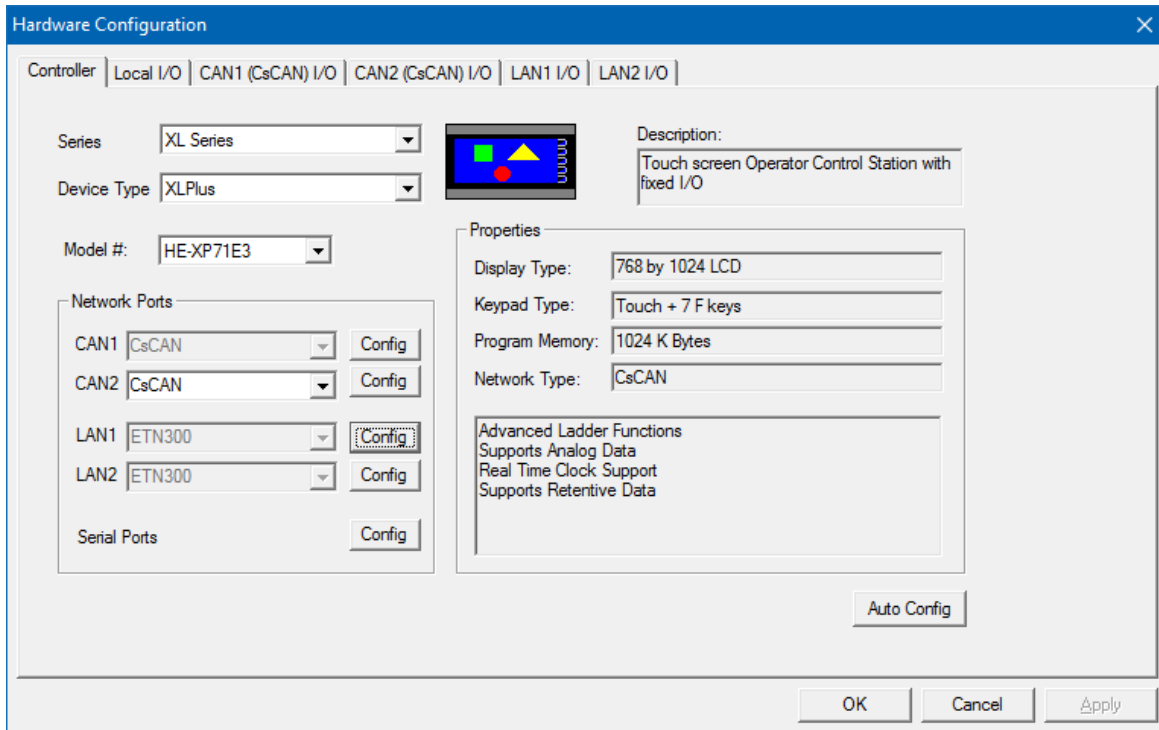

Figure 7.1 – Hardware Configuration Dialog
1. On the main Cscape screen, select the **Controller** menu and its **Hardware Configuration** sub-menu to open the I/O Configuration dialog (Figure 7.1).